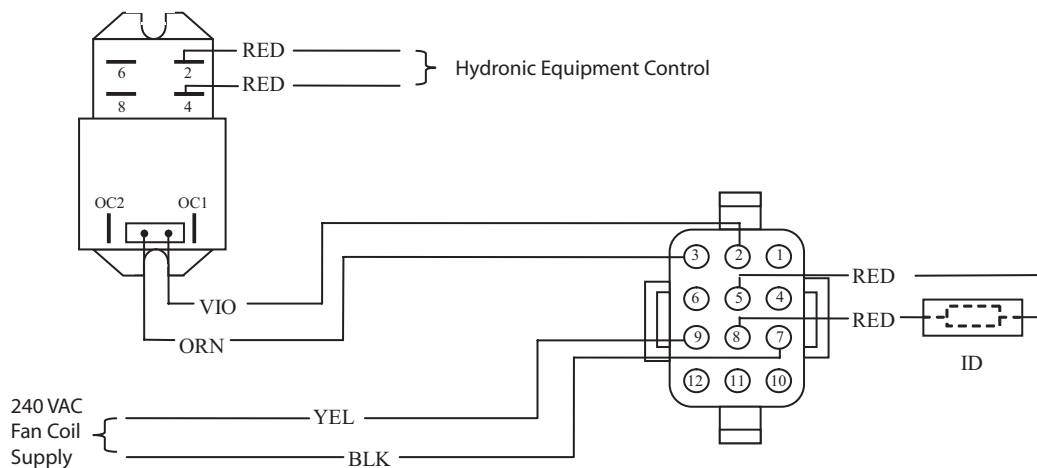

Fig. 2 - Interface Relay Kit Wiring Schematic
9. Use wire nuts to connect stripped red leads to the incoming Hydronic equipment control power wires. (See Fig. 2.)